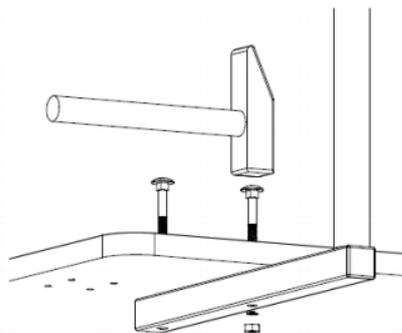

Figure 2: Attaching the handlebar
Next, attach the handlebar ② to the base panel ① (see figure 2).